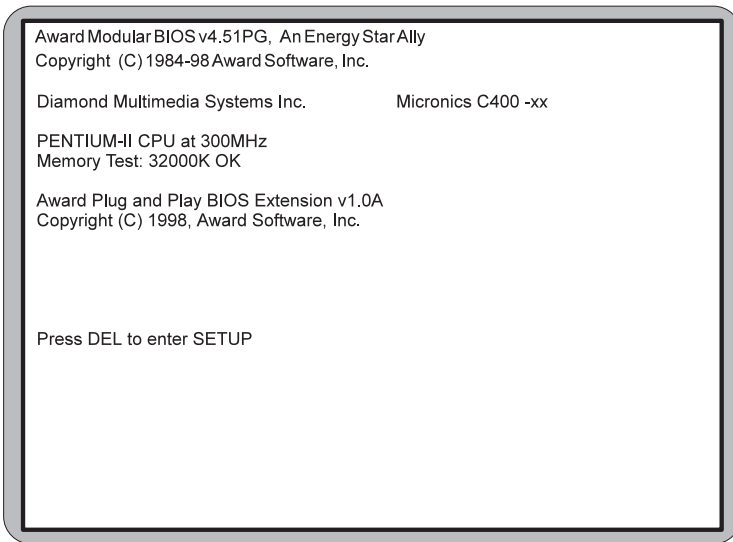

Figure 1.1: Power-Up Screen
9. Turn the computer on and press the <DEL> key when you see the screen shown in Figure 1.1.